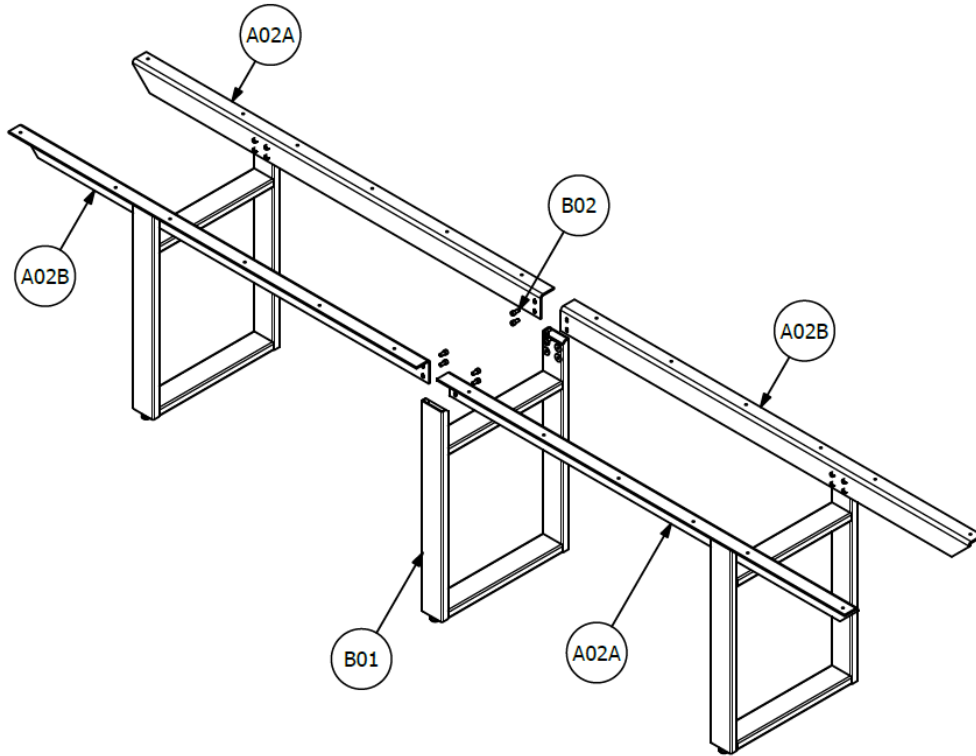
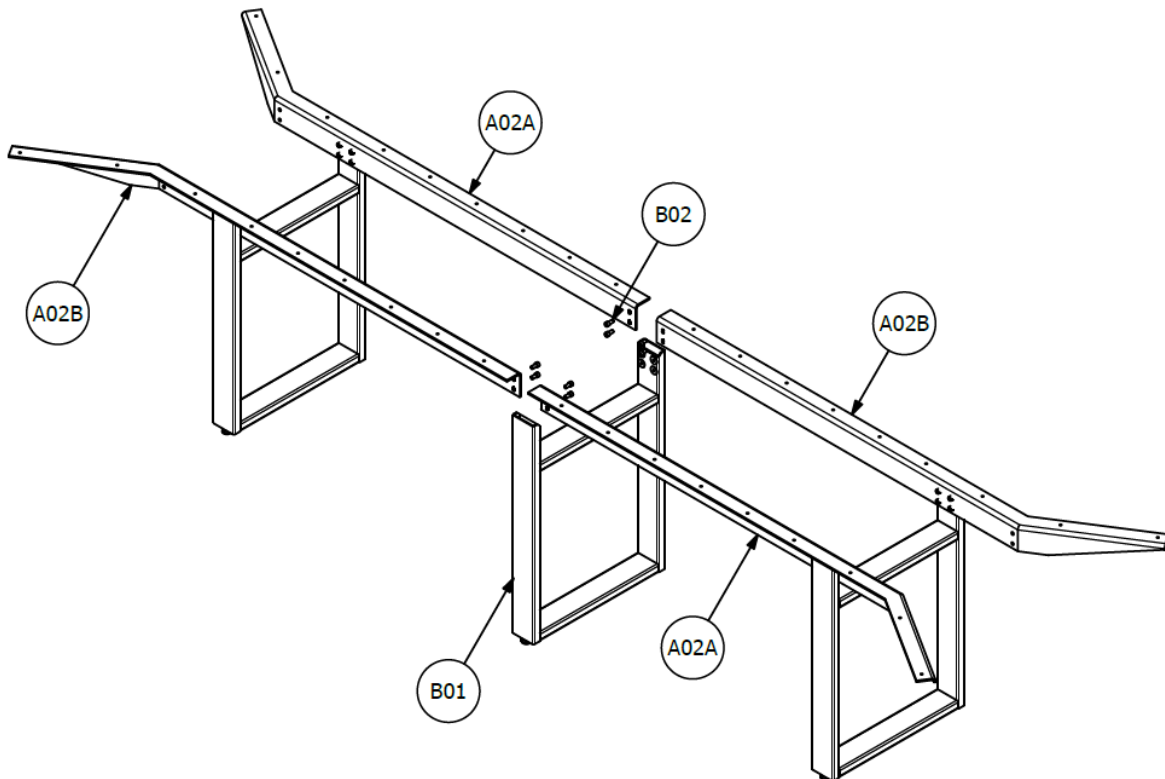

FIG. 09: TABLE HALVES (w\ STRAIGHT RAILS) TO INTERMEDIATE BASE
FIG. 10: TABLE HALVES (w\ ANGLED RAILS) TO INTERMEDIATE BASE
3. Orient the 2 rail halves end-to-end with the bases on the outside and the open (Flat) ends of the rails mated to each other. See Figure 09 for straight rail tables and Figure 10 for angled rail tables used with Power Drawer option.
4. Assemble Base (B01) using Fastener (B02) at the joining ends of the rail pairs to complete the assembly, See Figure 09 for straight rail tables and Figure 10 for angled rail tables used with Power Drawer option.